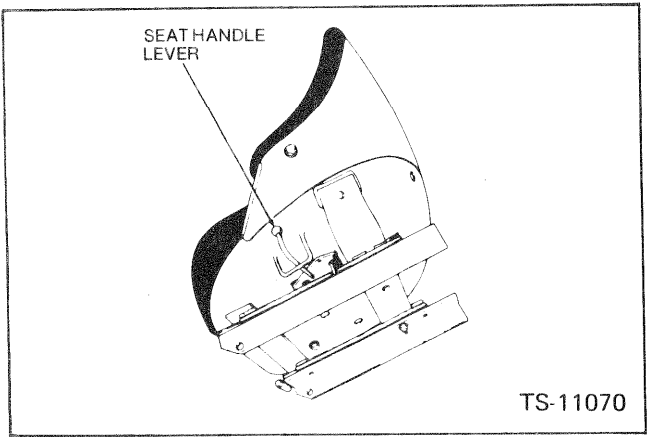

Fig. 2-2 Operators Seat Adjust Lever
- 24. **Seat Adjustment Levers** — The operator's seat can be shifted forward or backward to suit the individual, by moving the lever on the left hand side of the seat forward and shifting the seat to the desired position. Fig. 2-2. An additional adjustment in the height of the seat is offered. This can be done by removing the seat bracket mounting bolts and raising or lowering the seat to the desired position. Oiling of the release mechanism, track assemblies and pivot points will keep them operating freely.